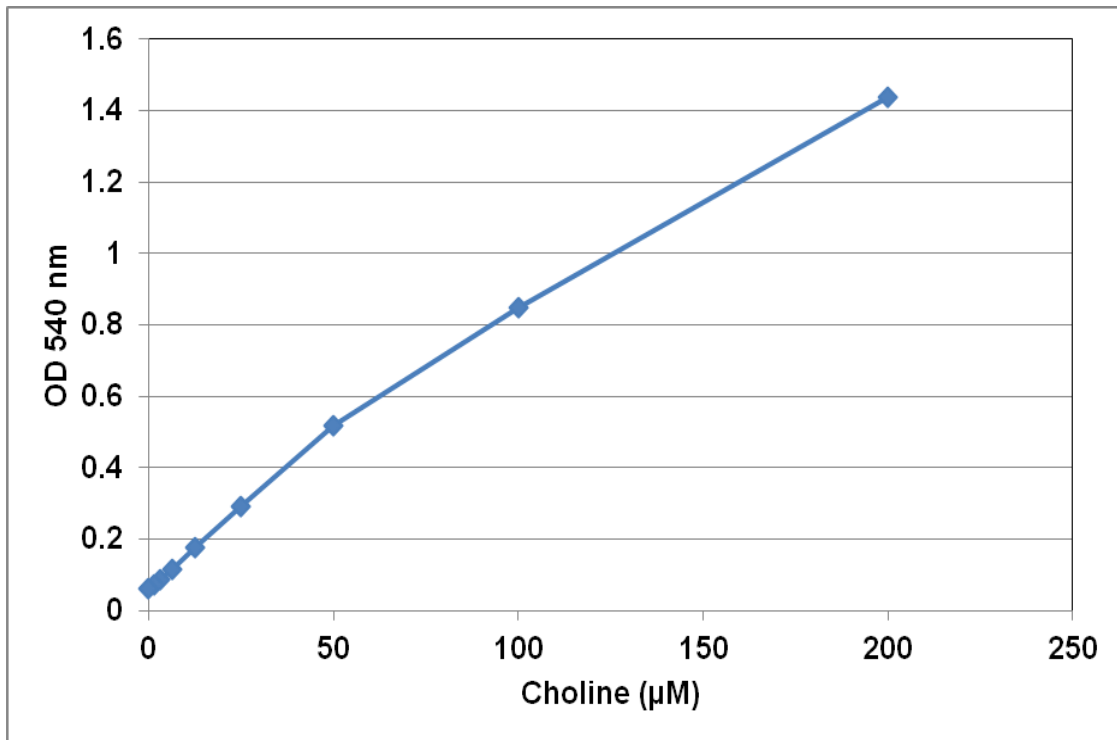

Figure 2: Choline Standard Curve.
2. Plot the corrected absorbance for the standards against the final concentration of the choline standards from Table 1 to determine the best curve. See Figure 2 for an example standard curve.